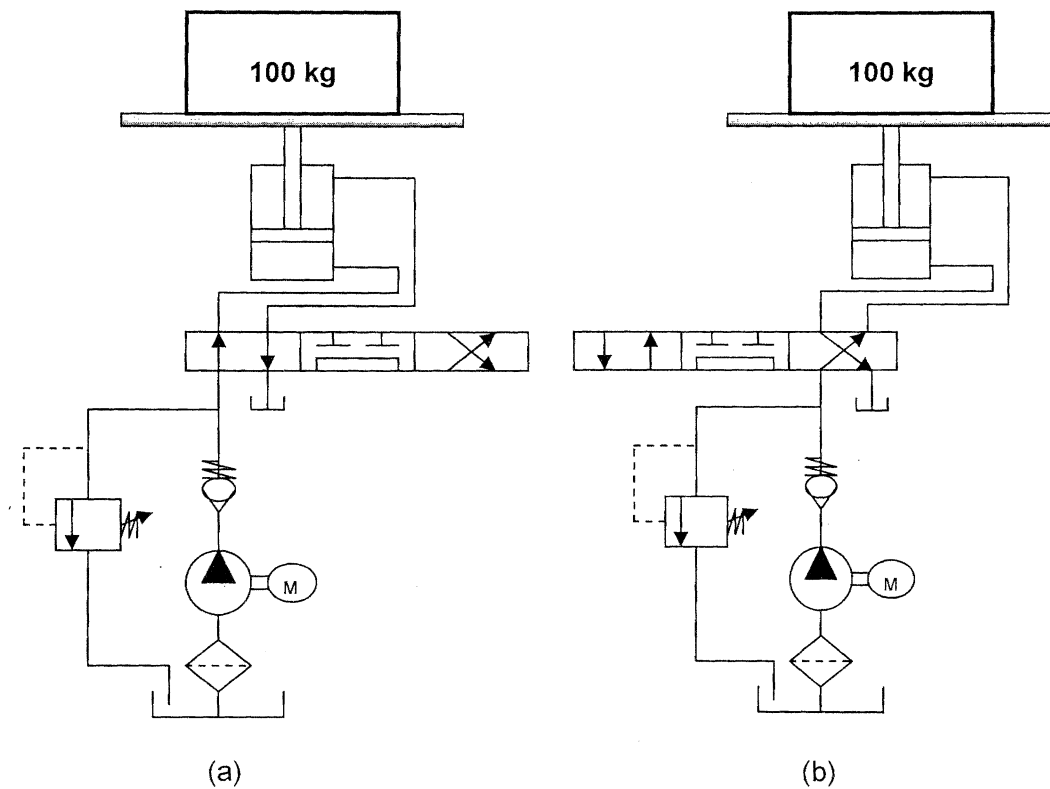

Figure 7
7. Figure 7(a) and 7(b) shows a basic circuit of an hydraulic system. Choose a circuit which is able to move the piston to lift the load mass of 100 kg. Give reasons for your choice.